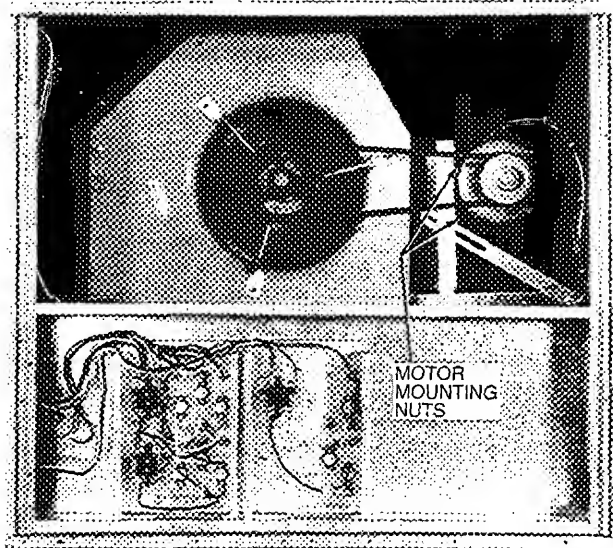

Fig. 10 — Belt-Drive Motor Mounting
2. Loosen belt by loosening fan motor mounting plate nuts (see Fig. 10).
To adjust belt tension (see Fig. 10):